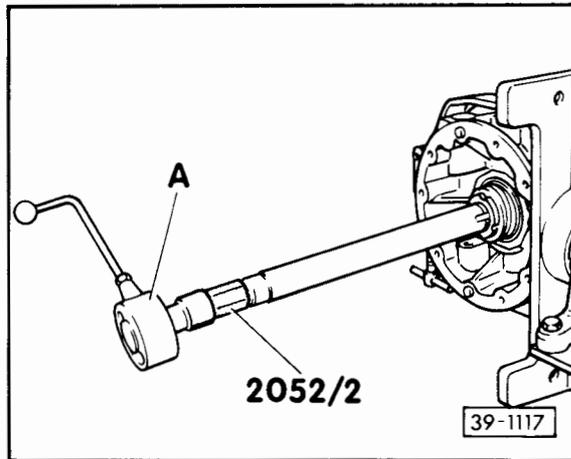

Fig. 6 Checking turning torque of double tapered roller bearing
- Checking turning torque – Figs. 6, 7 and 8